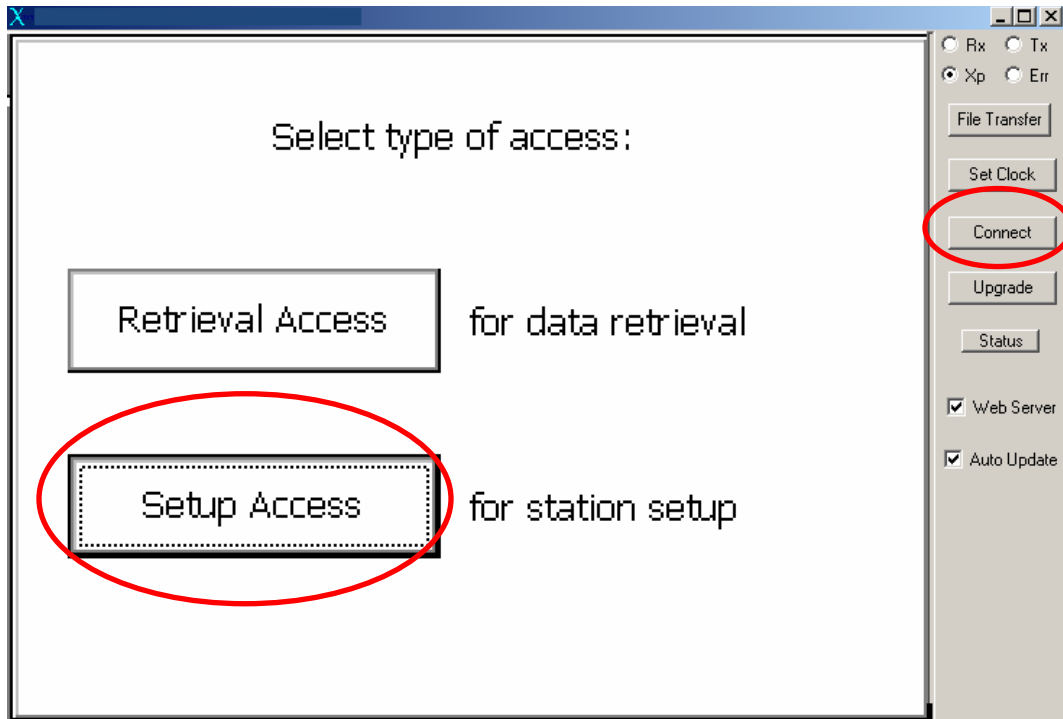

Figure 3-19. Xpert access selection.
7. Click the **Connect** button (fig 3-19).
8. You will be prompted to select from two access types. Click the **Setup Access** button (fig. 3-19).